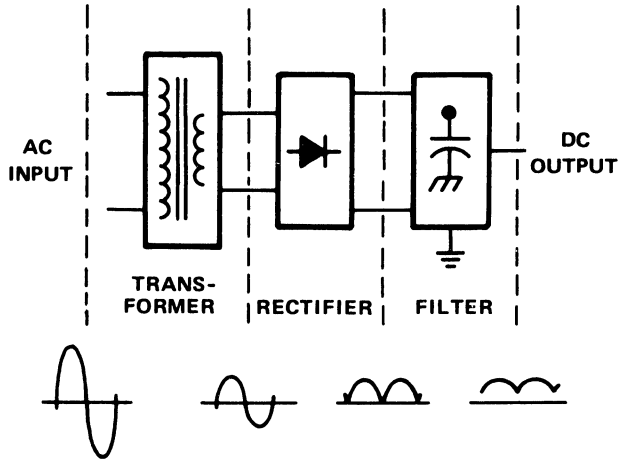
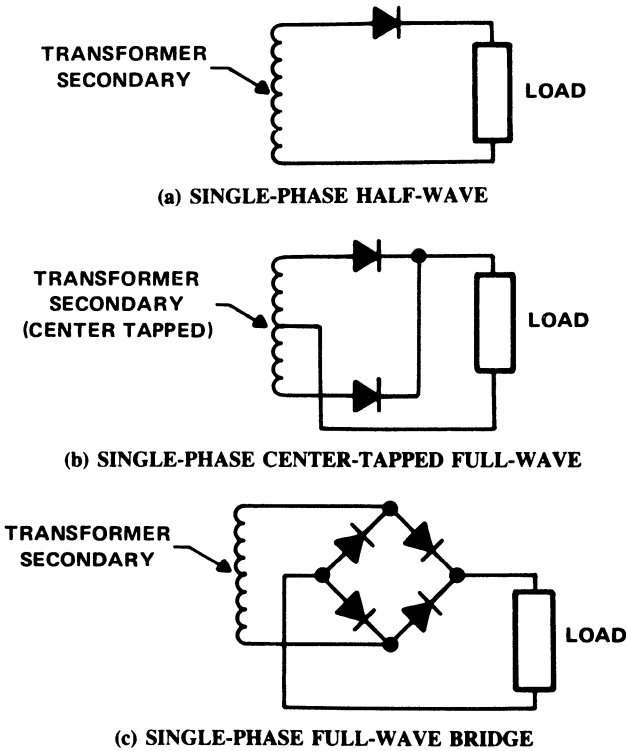
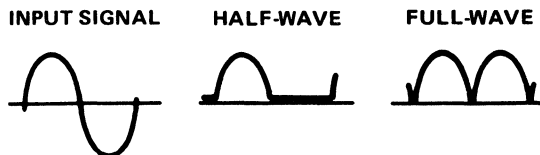

Figure 42. Input Supply
Figure 43. Input Supply Transformer/Rectifier Configurations
Figure 44. Rectifier Output-Voltage Waveforms
The input supply consists of three basic sections: (1) input transformer, (2) rectifier, and (3) filter as illustrated in Figure 42. The first two sections, the transformer and the rectifier, are partially dependent upon each other because the structure of one depends upon that of the other. The most common transformer configurations and their associated rectifier circuits are illustrated in Figure 43.
The particular configuration used depends upon the application. The half-wave circuit [Figure 43(a)] is used in low-current applications. This is because the single rectifier diode experiences the total load current and its conversion efficiency is less than 50%. The full-wave configurations [Figure 43(b) and 43(c)] are used for higher current application. The characteristic output voltage waveforms of these configurations are illustrated in Figure 44.